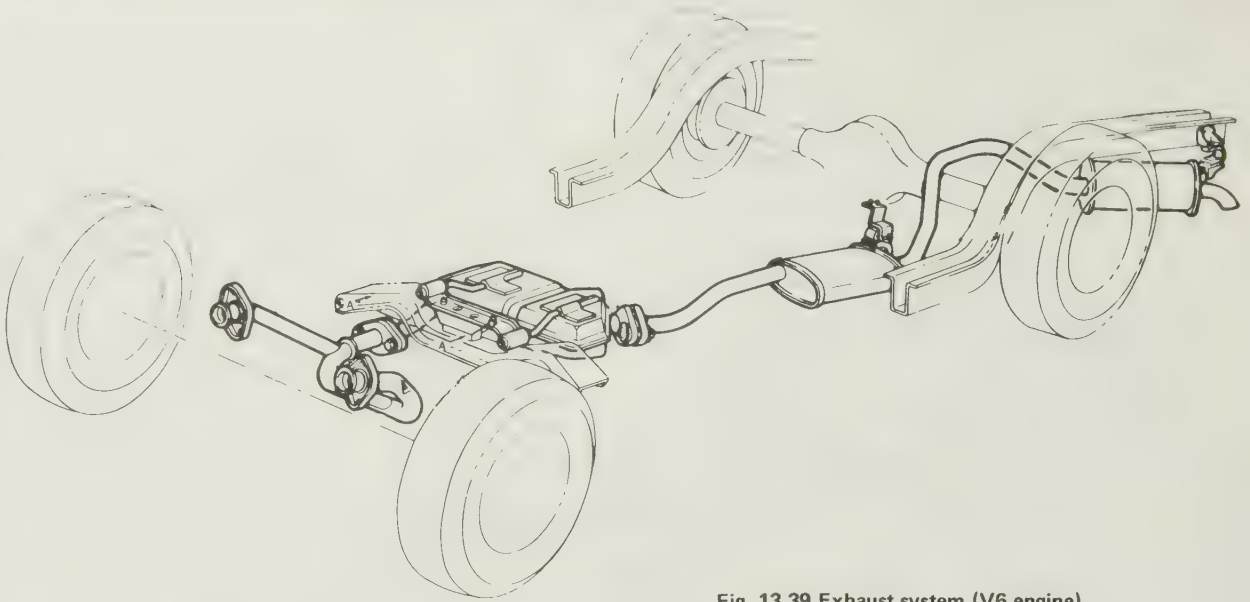

Fig. 13.39 Exhaust system (V6 engine)
- 13 Typical single catalytic converter systems are shown in Figs. 13.39 and 13.40. Removal and installation is similar to the operations described in Chapter 3.